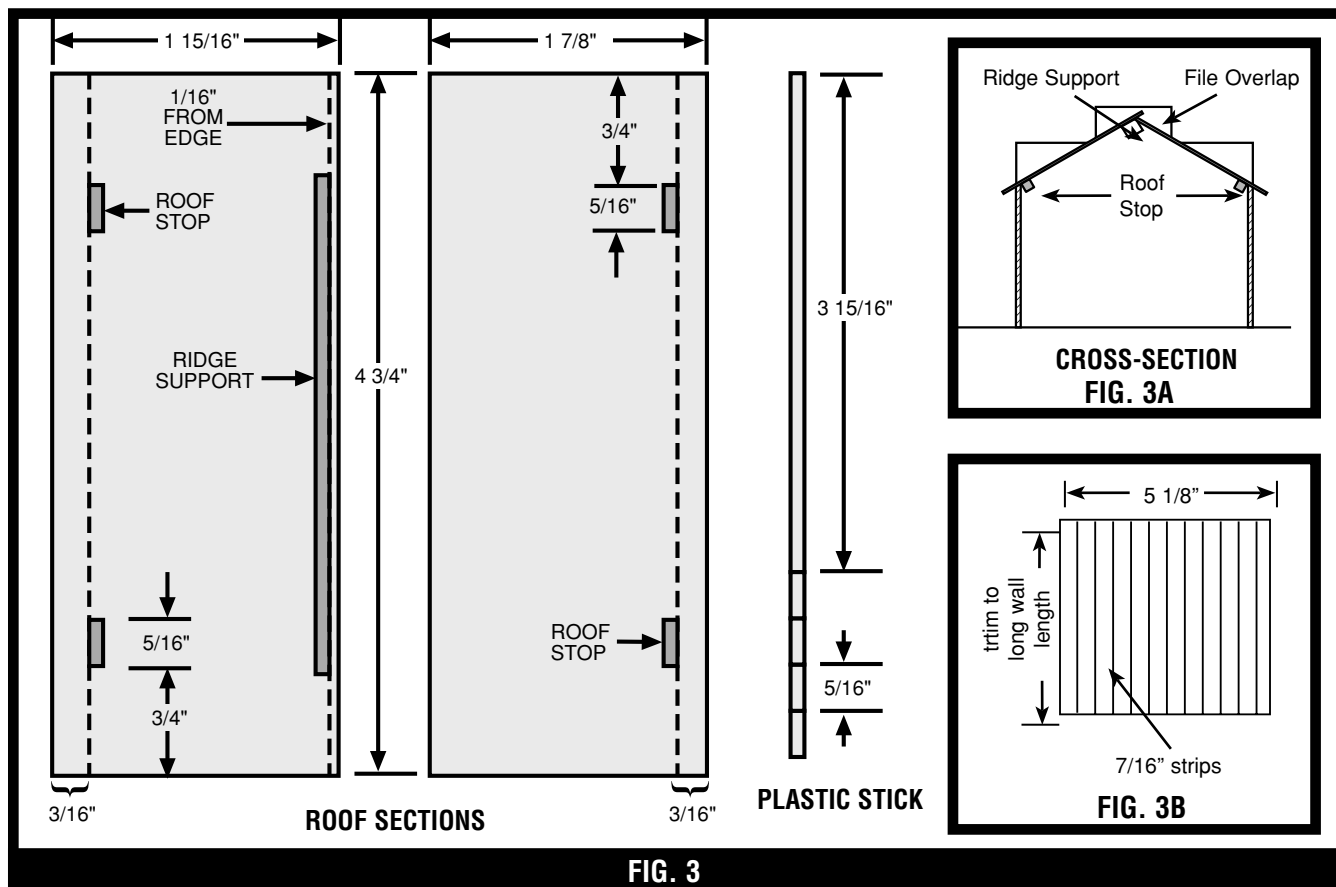

FIG. 3
1. Cut white plastic square to form two roof sections to the dimensions indicated in Fig. 3.
2. To form ridge supports and roof stops, cut the white plastic stick as shown in Fig. 3.
3. Glue ridge support and roof stops to underside of roof sections as shown in Fig. 3.